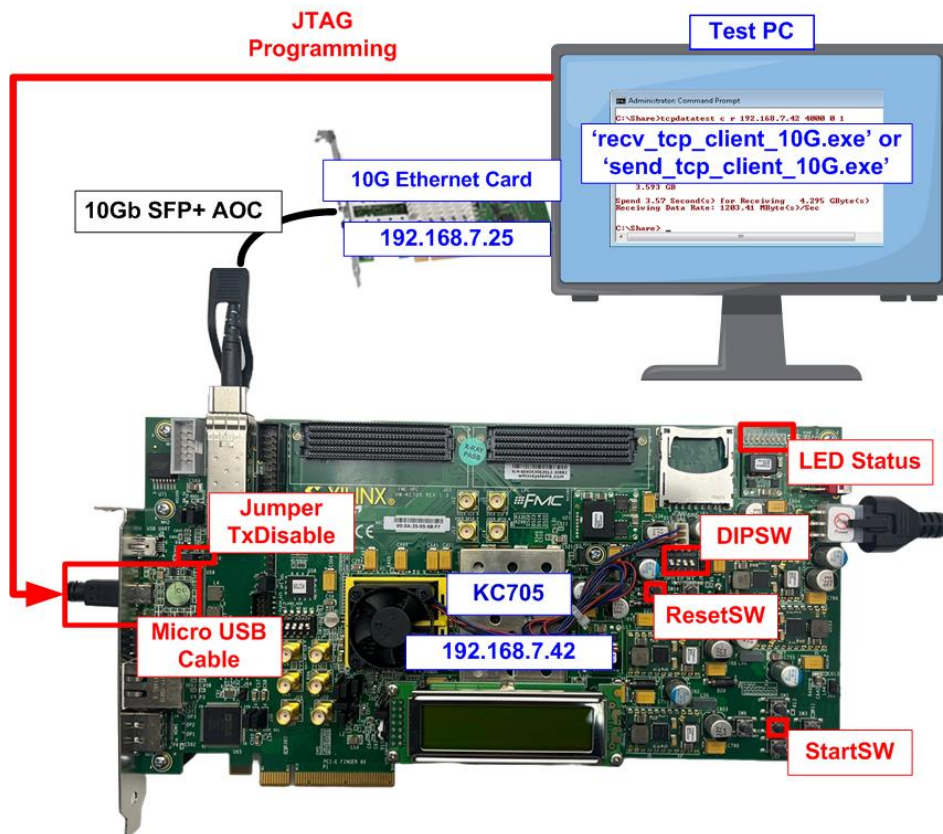
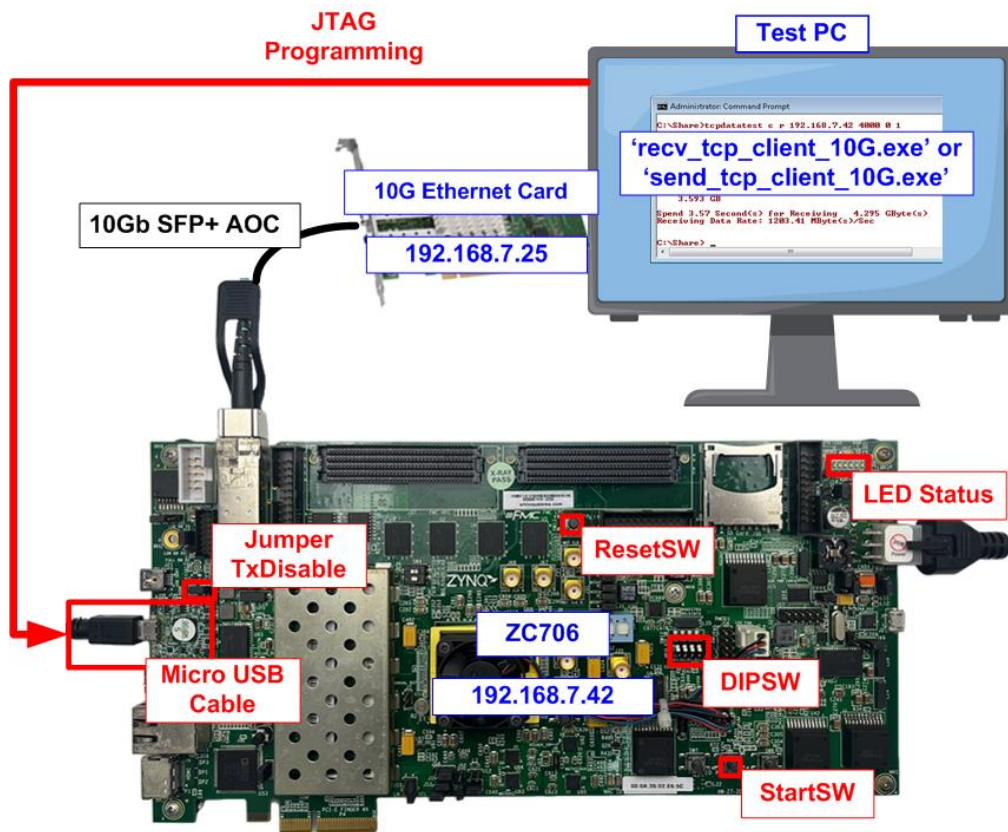

Figure 2-1 TOE10G-IP Demo on KC705
Figure 2-3 TOE10G-IP Demo on ZC706
- 1) Press 'StartSW' on the FPGA boards to initialize the system parameters. The switch position of each FPGA board is displayed in Figure 2-1 - Figure 2-3.